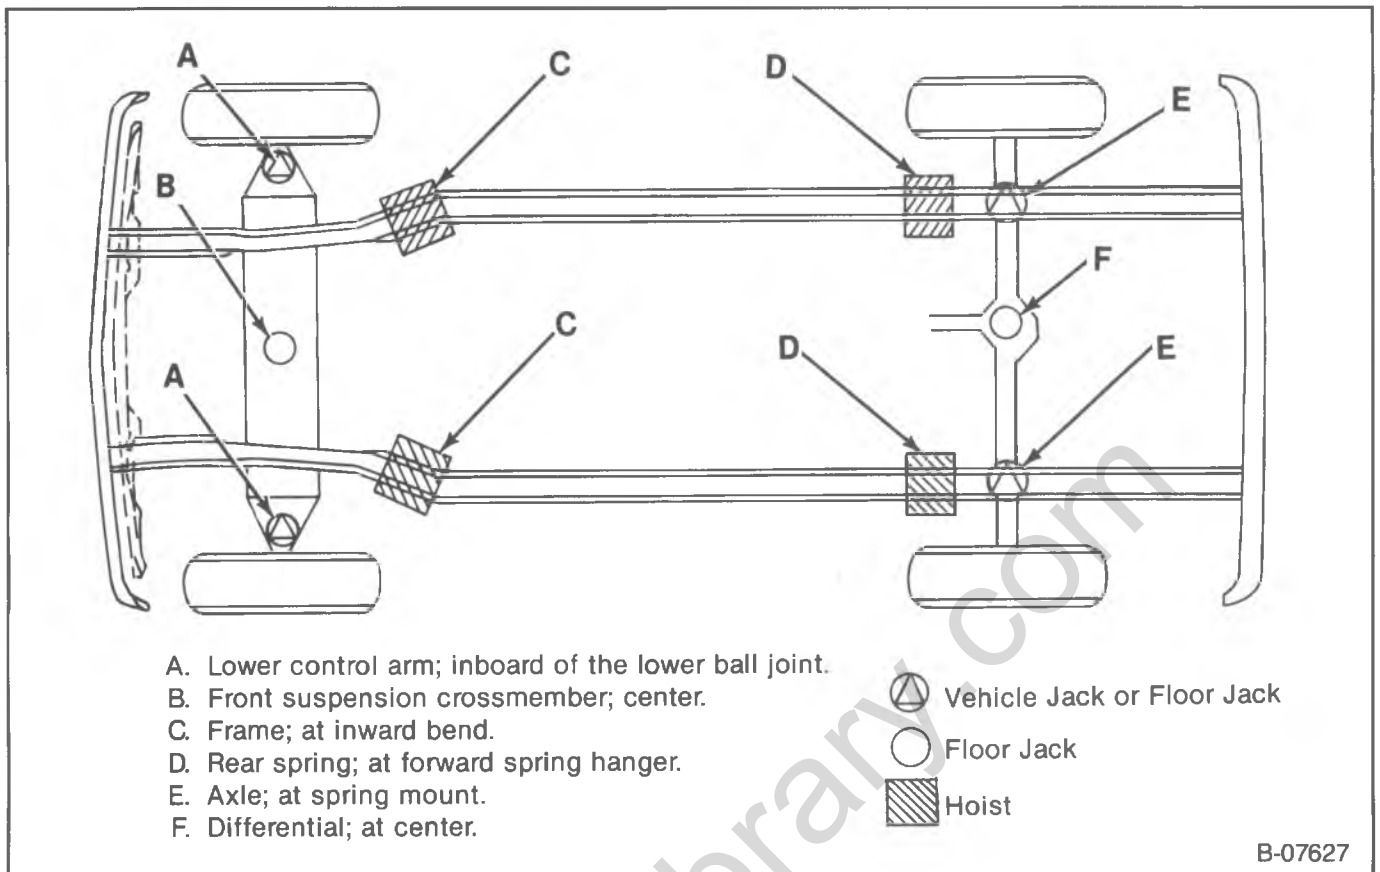

Figure 10—Chassis Lift Points — G Model
- d. Observe that, before fastener seats, it develops torque per the chart in figure 10 (if there is any doubt, replace with a new prevailing torque fastener of equal or greater strength).